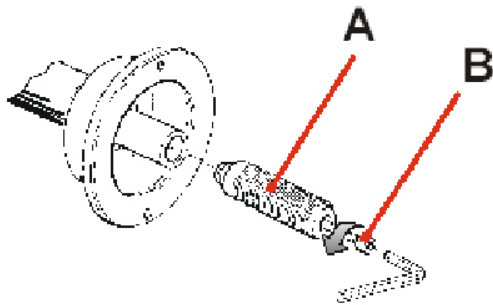

Fig4
- Shaft. Take out the threaded end and bolts from the accessory case. Mount them firmly according to Fig4.